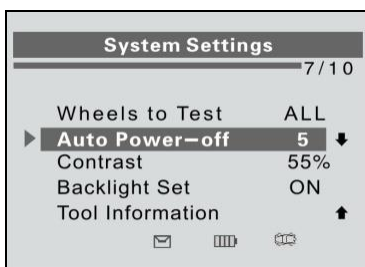

Figure 2.14
- 1) From **System Settings** screen, use the **UP/DOWN SCROLL** button to select **Auto Power-off**, and press the **Y** button. (Figure 2.14)